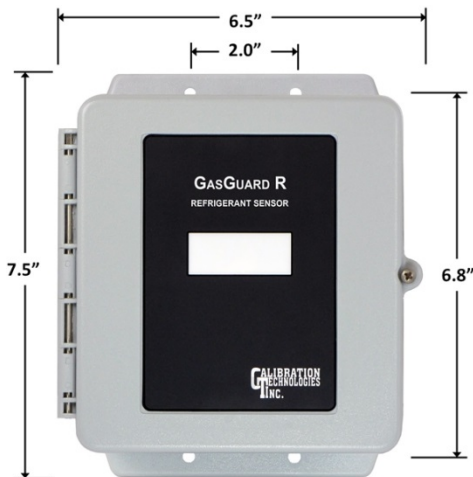

Figure 1: Mounting dimensions
- Mount sensor enclosures through the mounting holes as shown in **Figure 1**. Use the supplied self-tapping screws for mounting on sheet metal surfaces.